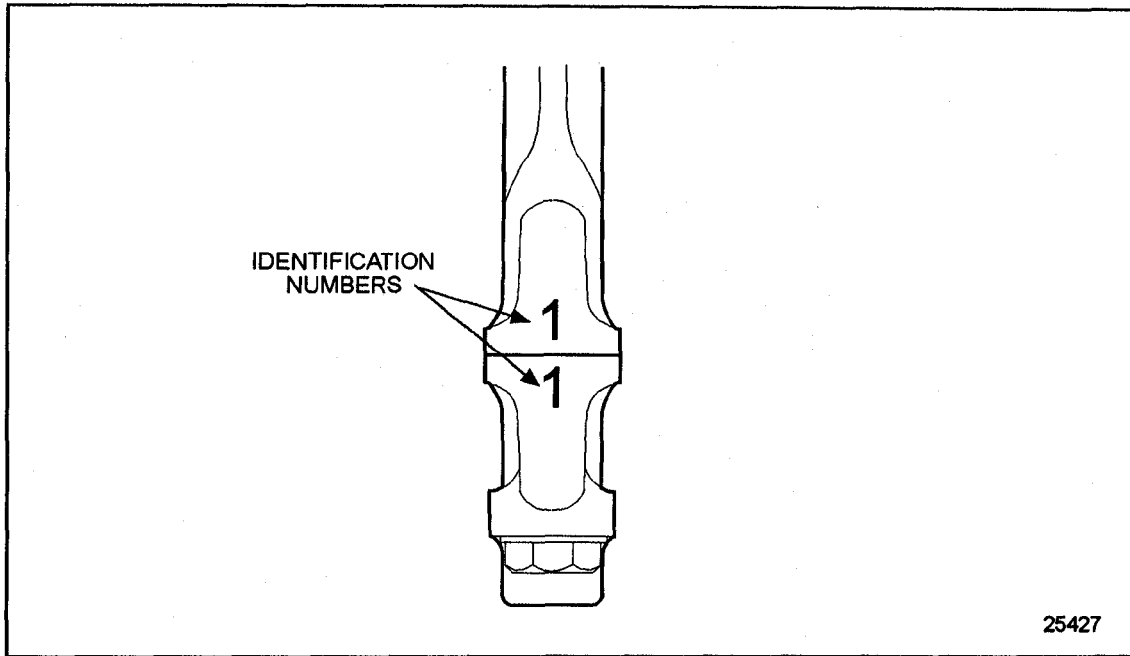

Figure 1-256 Connecting Rod and Cap Identification
10. Assemble the bearing cap and lower bearing shell to the connecting rod after removal. If not already marked, match-mark the rod and cap (on the tang side) with the cylinder number from where they were removed. See Figure 1-256.